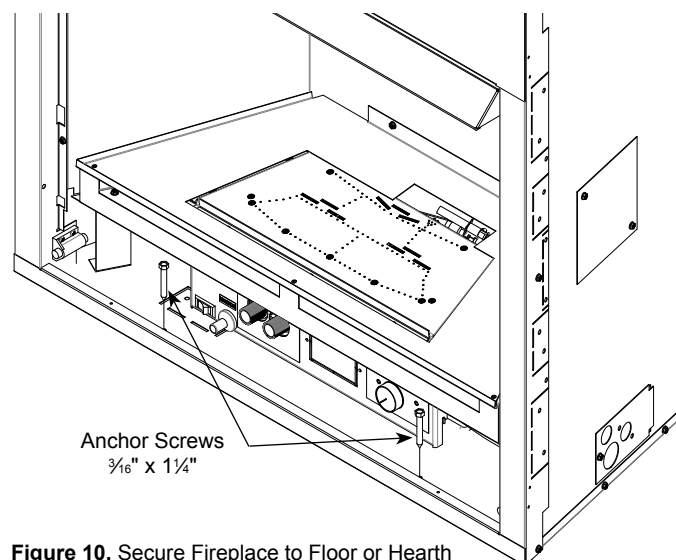

Figure 10. Secure Fireplace to Floor or Hearth
2. Secure the firebox with two anchoring screws ($\frac{3}{16}$ " x $1\frac{1}{4}$ " length) supplied with the fireplace system. Figure 10